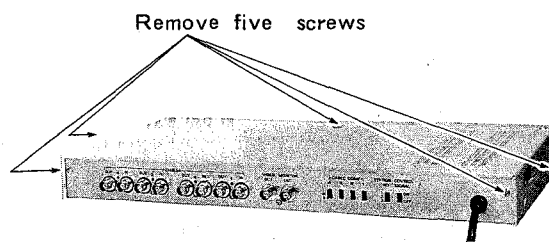

Fig. 2-1
- Remove five screws fixing the upper cover and remove the upper cover. (Fig. 2-1)